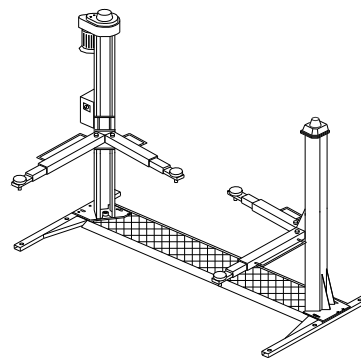

Fig.1
3. DESCRIPTION OF THE LIFT (Fig.1)